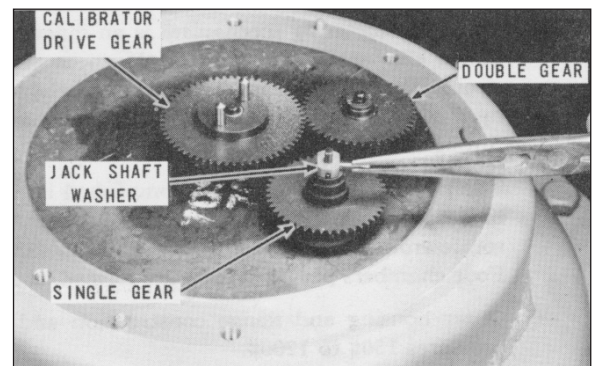

Figure 5 – Removing Pin from Washer
2. Any evidence of leaking through this packing gland will be visible at this time. To replace packing gland, it is necessary to remove the jackshaft washer and gear as shown in Figure 5.